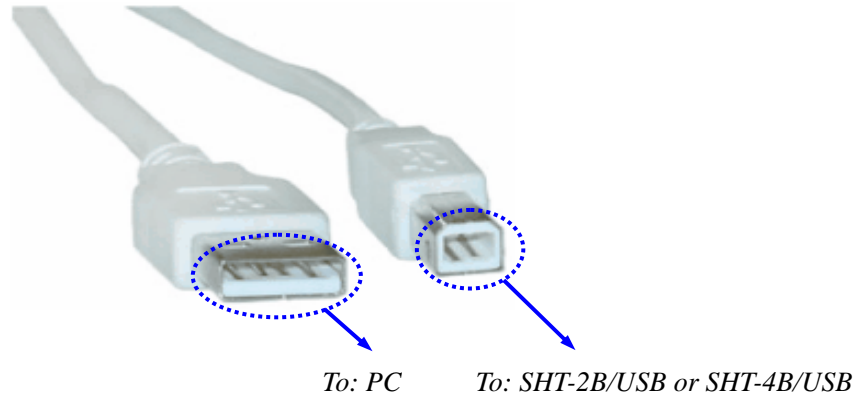

Figure 2-4 USB Data Line
Step 3: Connect the USB recording box and the PC by USB data lines (See Figure 2-4)